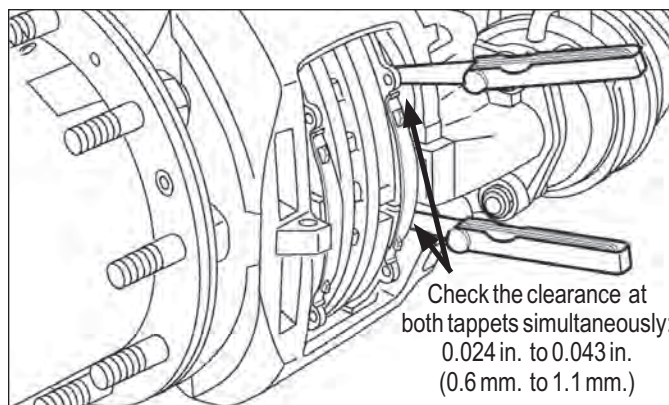

FIGURE 16 - RUNNING CLEARANCE CHECK
Remove the wheel. With the spring brakes released or caged, push the caliper assembly inboard on its guide pins. *Note: To fully release the spring brakes, assure that the air system pressure is at least 90 PSI.* Using a suitable tool (for example a large flat-blade screwdriver), press the inboard pad (12) away from the tappets. Check that there is no dirt, etc. in the gap, and clean if necessary. Then use two long-blade feeler gauges to measure over the whole tappet surface the gap between them and the inboard pad backplate. (See Figure 16.) The gap should be between 0.024 in. (0.6 mm) and 0.043 in. (1.1 mm). **If the gap is within the range given, the test is complete.**